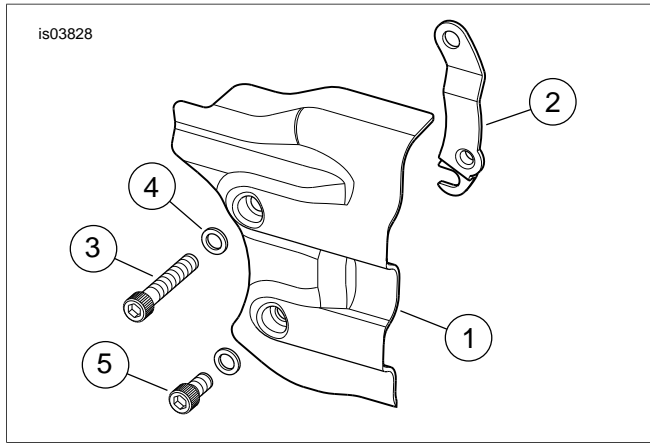

Figure 2. Service Parts, Interface Cover
See Figure 2 and Table 1.
3. See Figure 2. Obtain the interface mounting bracket (2) from the kit.
6. Obtain the interface cover (1), two screws (3 and 5) and two flat washers (4) from the kit. Place one washer onto the threads of each screw.